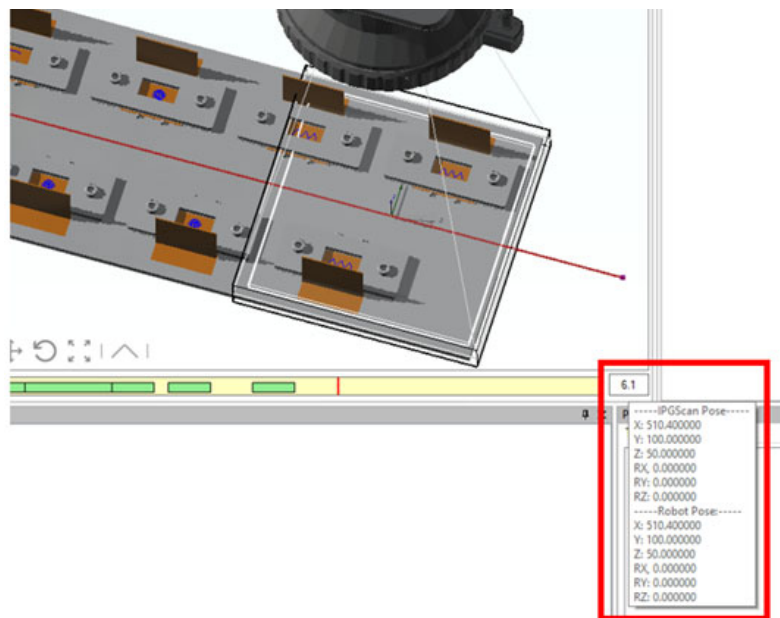

Figure 262: Basic Timeline IPGScan and Robot Pose Display
- IPGScan and Robot Pose Data - Users can view the current IPGScan Pose and Robot Pose data of where the FOV lies along the trajectory by hovering the mouse cursor over the time display. See Figure 262 (below).